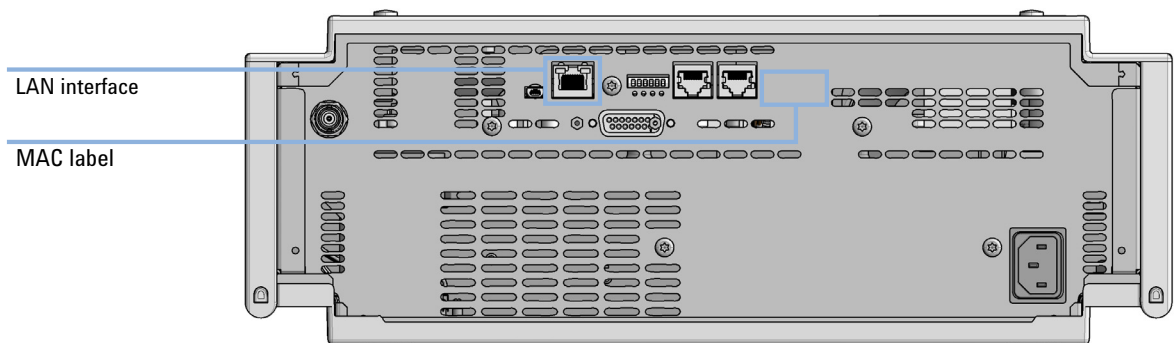

Figure 32 Location of LAN interfaces and MAC label
- 1 Note the MAC (Media Access Control) address for further reference. The MAC or hardware address of the LAN interfaces is a world wide unique identifier. No other network device will have the same hardware address. The MAC address can be found on a label at the rear of the module underneath the configuration switch (see Figure 32 on page 228).
- 2 Connect the instrument's LAN interface (see Figure 32 on page 228) to